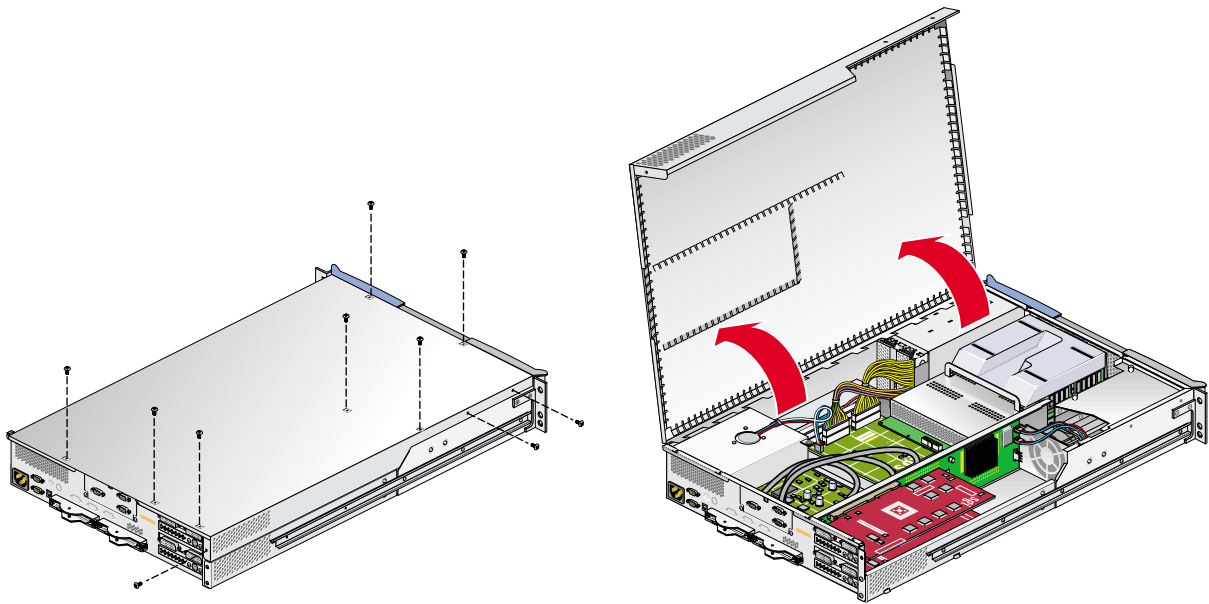

Figure A-13 Opening the Module to Access the L1 Controller Display
5. To access the area where the L1 display is replaced, remove the ten Phillips screws shown in Figure A-13, and lift and open the hinged cover.